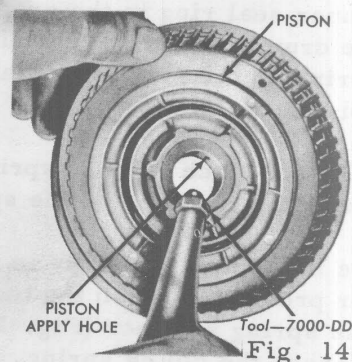

Fig. 14
- ☒ Install the special nozzle on the air hose (Fig. 14). Place the nozzle against the clutch apply hole in the front clutch housing. Blow the piston out of the housing.